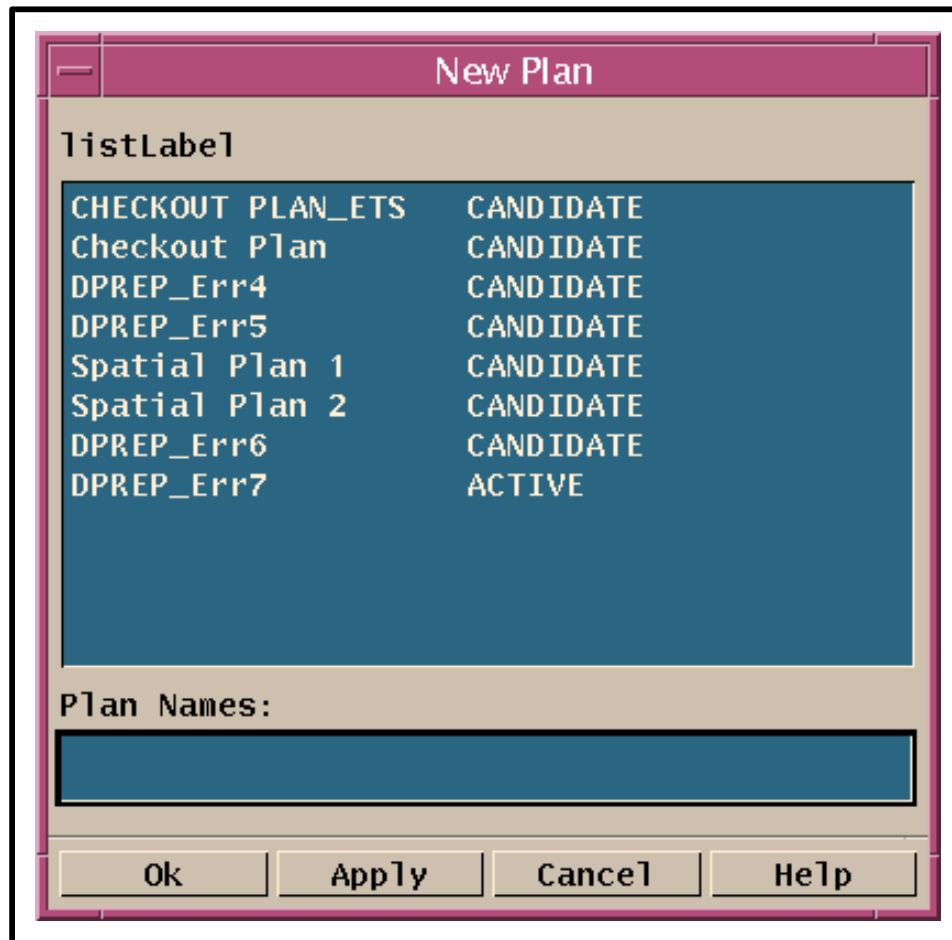

Figure 42. Planning Workbench New Plan Window
- The **New Plan** window (Figure 42) is displayed.
- Except for the title, the **Save Plan** window looks the same as the **New Plan** window (Figure 42).